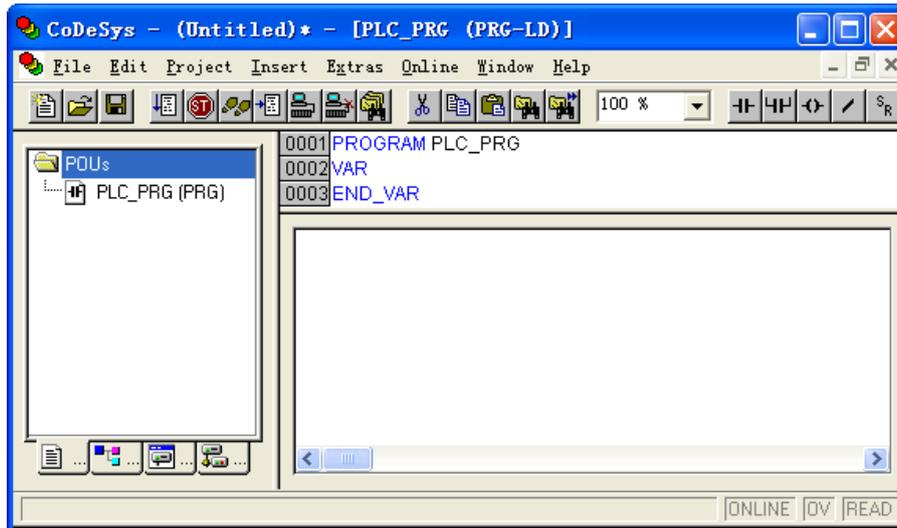

Figure 3-3-4 Workspace
- Click “OK” and the window as shown in figure 3-3-4 will appear.